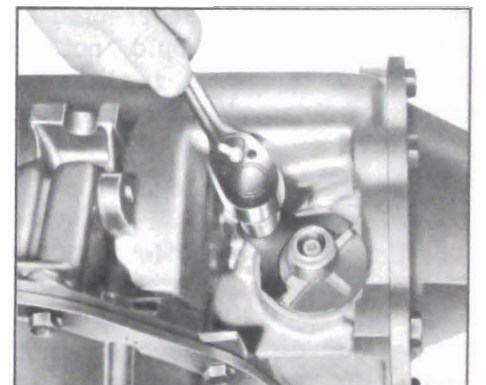

Figure 5-732
2. Install the speedometer driven gear retainer and attaching bolt. See Figure 5-732.